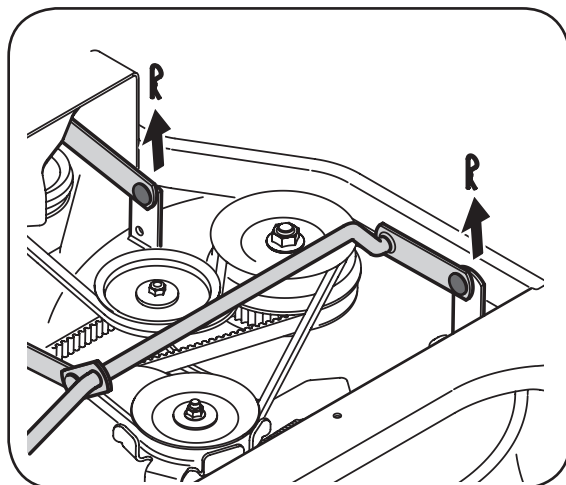

Figure 5-7: Remove hairpin clips.
7. Looking at the cutting deck from the left side of the mower, located the hairpin clip that secures the deck support rod on the rear left side of the deck, Figure 5-7.
8. Remove the hairpin clip that secures the support rod, and carefully remove the deck support from the deck lift arm, Figure 5-7.